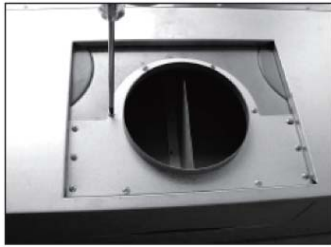

Fig. 3a
- d. Replace the 6" round duct with the half round section duct. **(Fig. 3a-3b)**